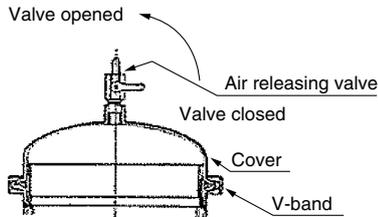

Fig. 3 Opening/Closing the air releasing valve
3. Open the air release valve to allow the internal pressure of the filter to reach zero. Then open the drain valve and liquid discharging valve to completely drain the internal fluid. (Refer to fig. 3)